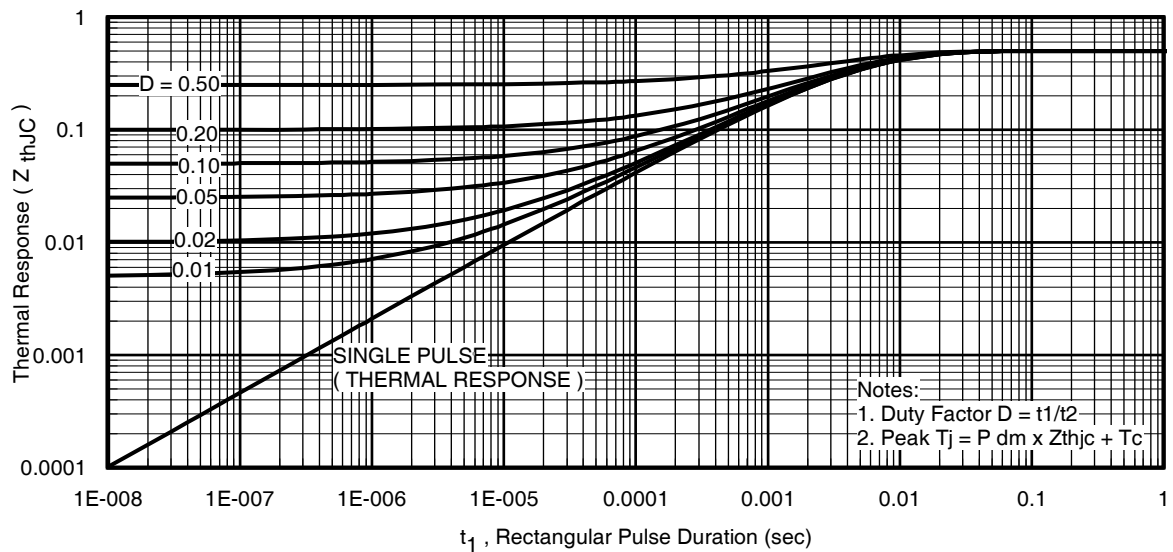

Fig 11. Maximum Effective Transient Thermal Impedance, Junction-to-Case
- ① Calculated continuous current based on maximum allowable junction temperature. Package limitation current is 195A. Note that current limitations arising from heating of the device leads may occur with some lead mounting arrangements. (Refer to AN-1140) <http://www.irf.com/technical-info/appnotes/an-1140.pdf>
- ② Repetitive rating; pulse width limited by max. junction temperature. (See fig. 11).
- ③ Limited by T_{Jmax} , starting $T_J = 25^\circ\text{C}$, $L = 0.24mH$, $R_G = 25\Omega$, $I_{AS} = 75A$, $V_{GS} = 10V$.
$Z_{thJC}(D, t_{av})$ = Transient thermal resistance, see figure 11)